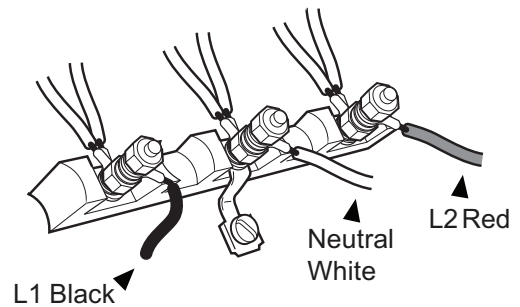

Figure 13: 3 Wire Connection
block provided. Secure the ground lead to the junction box with the screw previously used to secure the ground strap. Refer to Figure 13. The free end of the conduit must be connected to a junction box provided in the gas and electrical supply zone, as shown in Figure 3a on page 8.
2. Secure the neutral, grounded wire of the supply circuit, to the center stud of the terminal block with nut. (See Figure 13).